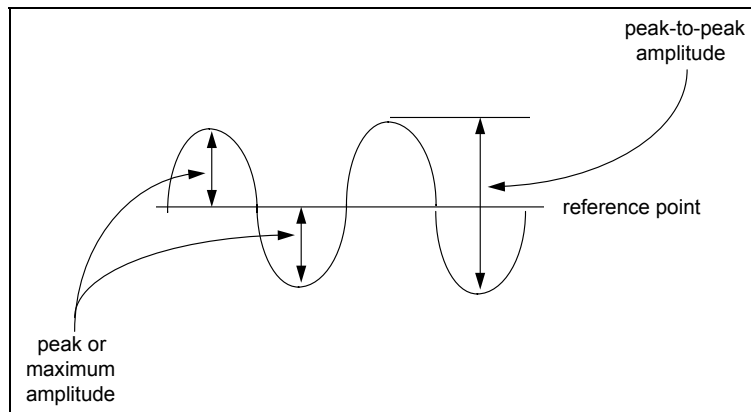

Figure 3: Measuring Amplitude.
- The **amplitude** of the wave is defined as the maximum magnitude of the wave. The amplitude is the vertical component of the signal and is measured in units of volts (V). Since we are dealing with an AC signal, the voltage will change over a period of time. The maximum voltage of a signal during its cycle is commonly referred to as the **peak voltage (V_p)**.
- The amplitude can be measured from the reference line to the peak (V_p) or from peak-to-peak (V_{pp}). See Figure 3 below.